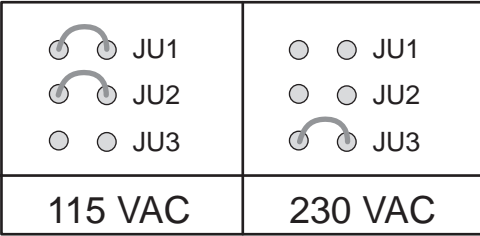

Figure 7-2. Jumper Configuration for 115 and 230 VAC Operation
4. Change the jumper configuration for the new operating voltage. Figure 7-2 shows the jumper configurations for 115 and 230 VAC operation.